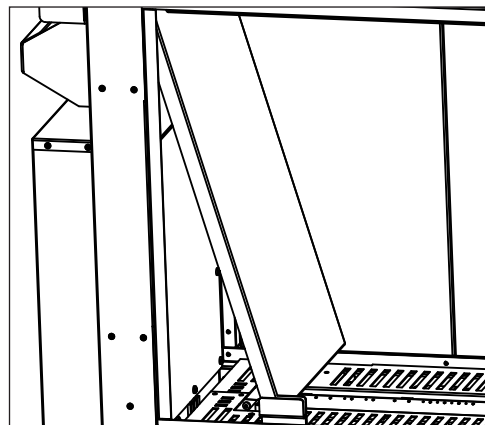

Figure 44: Side Liner Removal
Step 3. Remove the side liners by swinging the bottom out first allowing the top to come free (Figure 44). **Skip to step 6 if installing in a see through installation.**